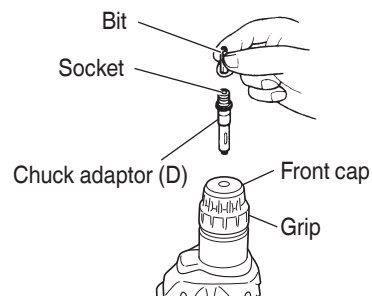

Fig. 11
4. When driving machine screws (Fig. 11)
- Do not attempt to use the rotary hammer in the rotation and striking function with chuck adaptor (D) and bit attached.
5. When driving wood screws (Fig. 11)